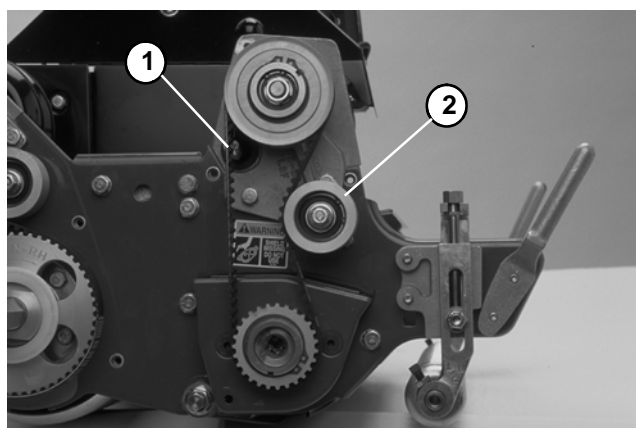

Figure 9
D. Pivot the idler pulley clockwise against the back-side of the belt until desired belt tension is attained. **Do not over tension belt (Fig. 9).**
F. Reinstall belt cover by placing the cover in position. While maintaining a slight gap between the cover seal and the side plate, install each cap screw until the threads engage in the insert. The gap will allow visual alignment of the cap screw to the threaded insert. After all cap screws are installed, tighten them until the stand offs inside the cover contact the side plate. **Do not overtighten (Fig. 9).**